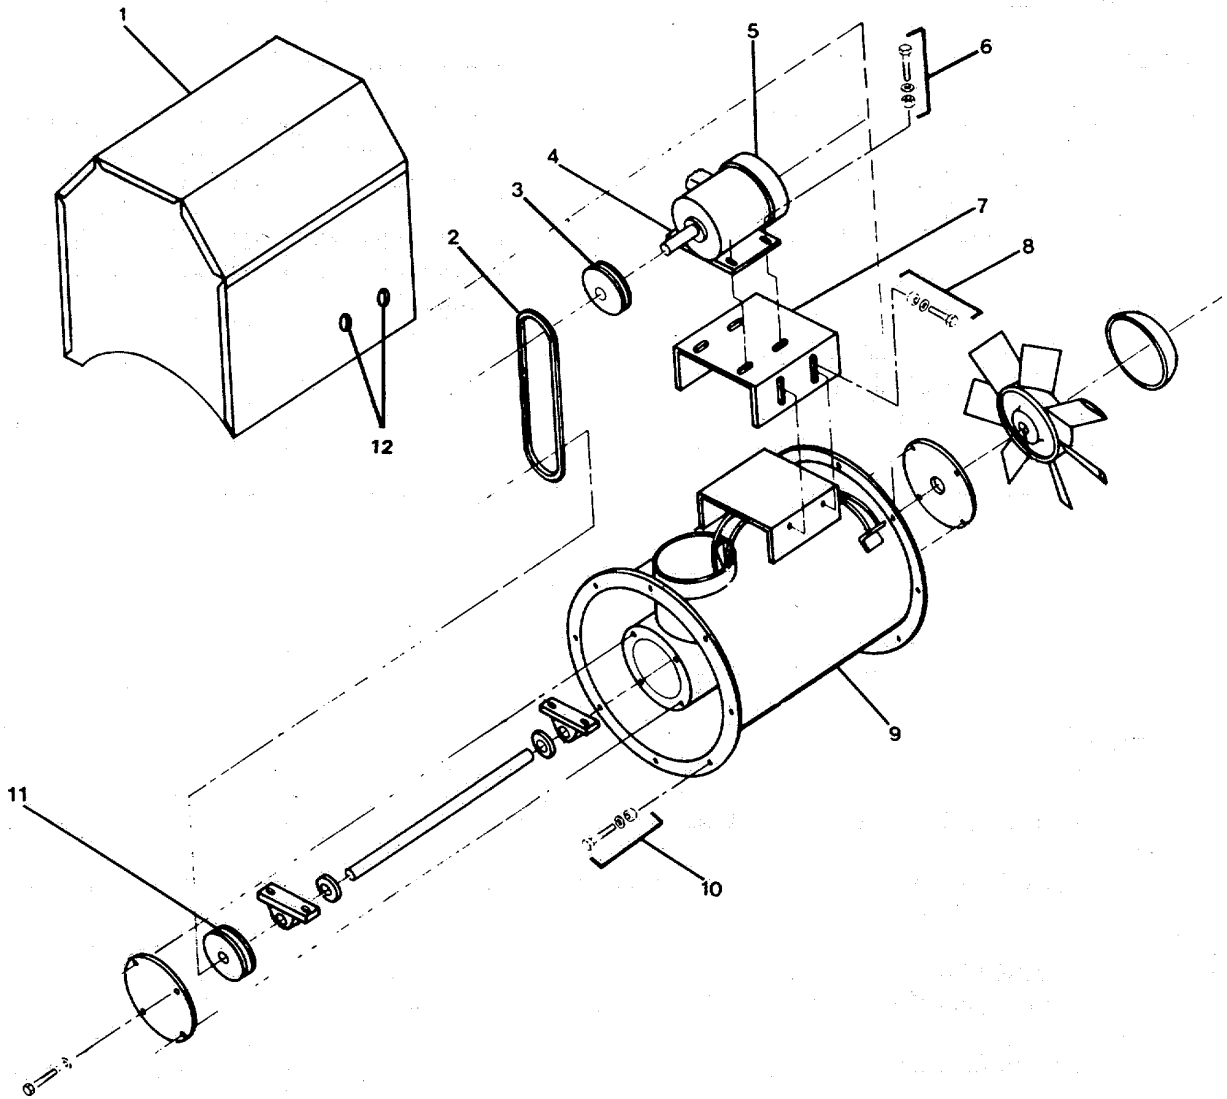
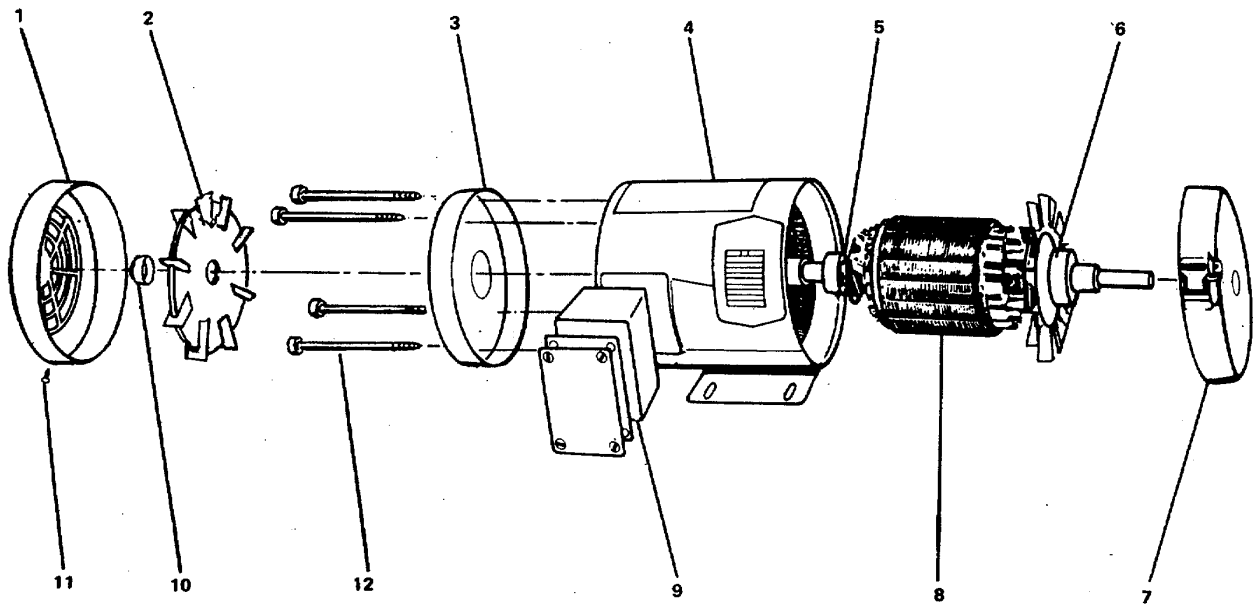
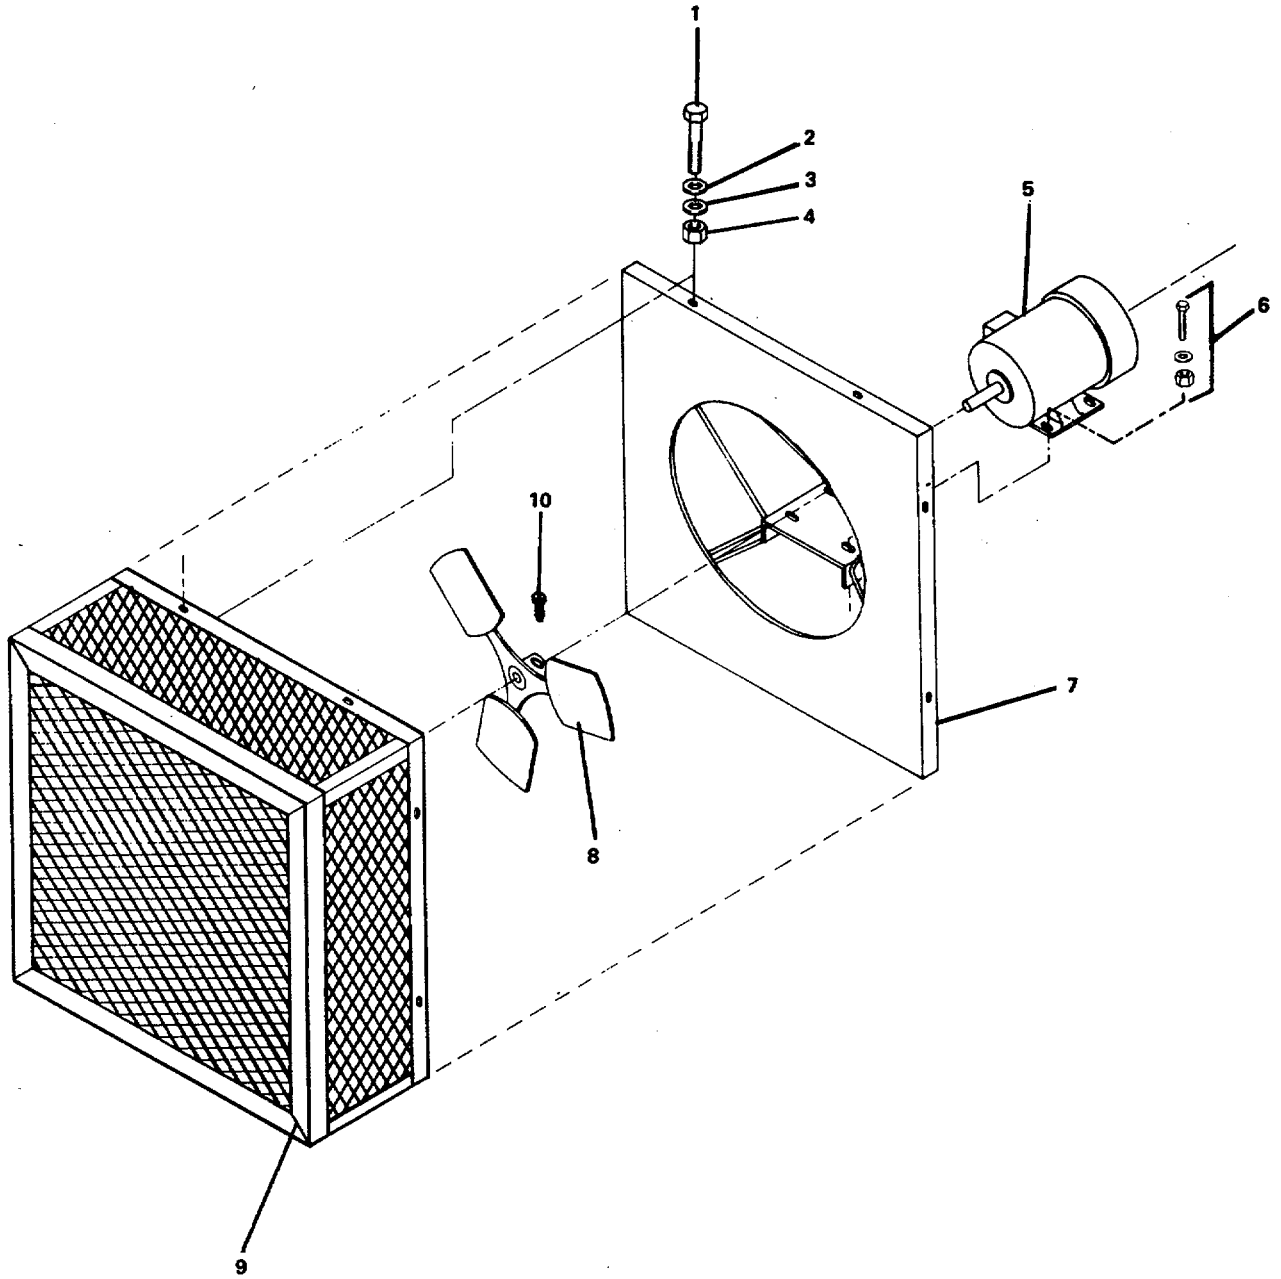

Figure 2-15. Ventilating Fan (Supply Fan #4).
Figure 2-16. Alternating Current Electric Motor.
Figure 2-17. Ventilating Fan (Supply Fan #5).
2-25. Repair Fan, Ventilating (Supply Fan #4) (Bowthrustrer Room). (FIGURE 2-15)
2-26. Replace/Repair Motor, Electric, Alternating Current (Supply Fan #4). (FIGURE 2-16)
- b. Tag and disconnect electrical wiring in motor terminal box (9, FIGURE 2-16).
- c. Refer to paragraph 2-25 and FIGURE 2-15, and remove the motor as follows:
- (1) Loosen tension on V-belt. Remove belt from around motor pulley (3, FIGURE 2-15).
- (2) Use a puller and remove the motor pulley (3) and machine key (4).
- (3) Remove motor mounting bolt, nut, and lockwasher assemblies (6).
- (4) Remove the motor (5) from the motor base (7).
Repair consists of replacing bearings (5) and (6), FIGURE 2-16.
- (1) Remove screws (11) and remove fan cover (1).
- (2) Remove locking hub (10) and external fan (2).
- a. Refer to paragraph 2-25, and FIGURE 2-15, and install the motor as follows.
- (1) Position the motor on mounting base (7, FIGURE 2-15).
- (2) Install motor mounting bolt, nut, and lockwasher assemblies (6). Do not secure until pulleys (3) and (11) are aligned.
- (3) Align pulleys (3) and (11), install V-belt (2) and adjust tension (paragraph 2-25).
- (4) Connect electrical wiring to proper terminals in motor terminal box (9, FIGURE 2-16).
2-27. Repair Fan, Ventilating (Supply Fan #5) (A/C and Emergency Generator Room). (FIGURE 2-17)
- a. Remove bolts (1), flat washers (2), and lockwashers (3) and nuts (4) and remove box guard (9, FIGURE 2-17).
- b. Loosen setscrew (10) and remove impeller (8) from motor (5) shaft.
- c. Tag and disconnect wiring from motor (5) terminal box.
- d. Remove the panel (7) with motor (5) from its mounting.
Repair consists of replacing the alternating current motor (5, FIGURE 2-17) or the motor bearings (5, 6, FIGURE 2-16).
- a. Remove the motor (5, FIGURE 2-17) from panel (7) as follows:
- (1) Remove bolt, nut, and lockwasher assemblies (6).
- (2) Remove the motor (5).
- c. Install the motor (5, FIGURE 2-17) on panel (7) mounting plate as follows:
- (1) Position motor on mounting plate.
- (2) Install mounting bolt, nut, and washer assemblies (6).
- (3) Tighten bolts firmly.